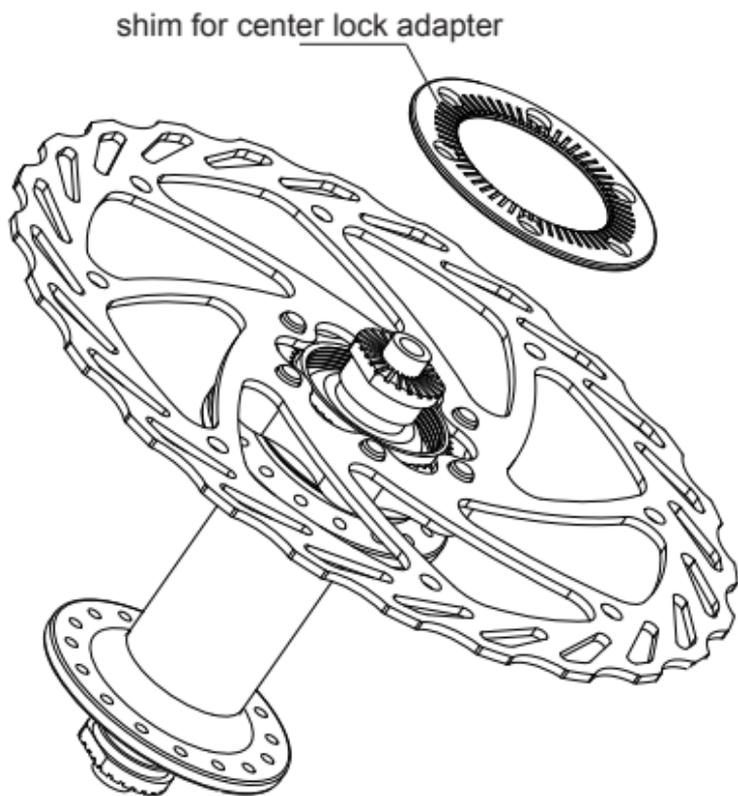

figure 3
3. Install the shim on the flange of center lock adapter, attention that 6 holes corresponding (figure 3) .